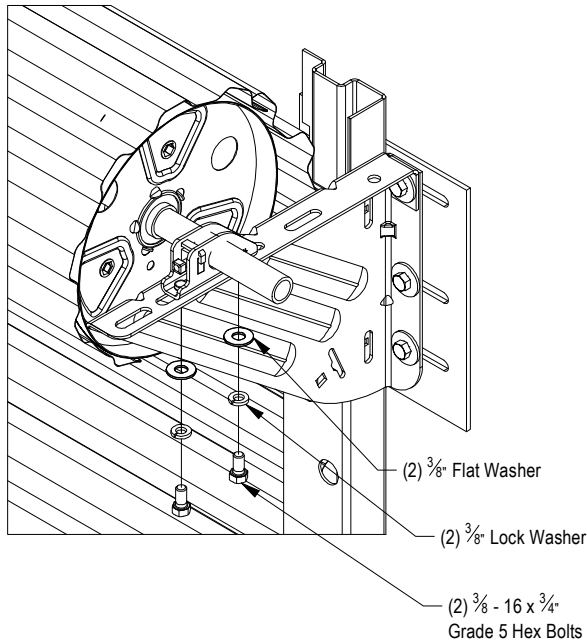

FIGURE 17:
- Attach stamped axle support to door bracket using two (2) each $\frac{3}{8}$ - 16 x $\frac{3}{4}$ " grade 5 hex bolts, $\frac{3}{8}$ " lock washers and $\frac{3}{8}$ " flat washers. **See Figures 17.**